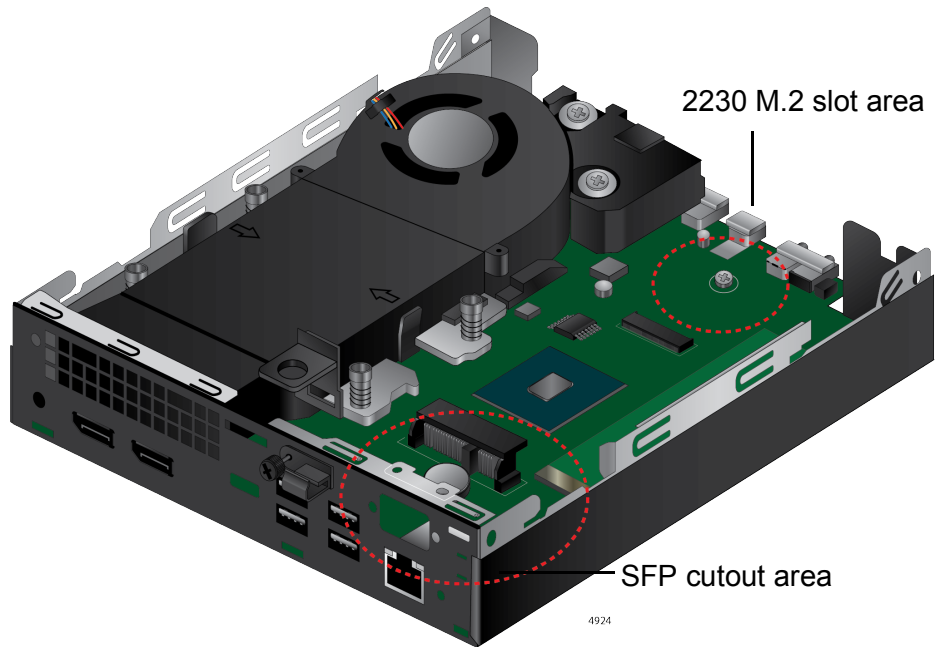

Figure 5. Inside of Dell Platform
- Remove any back plate or previously installed device that is occupying the back of the SFP cutout if necessary. See the Figure 5 on page 28.
- Remove an M.2 device, such as a Wi-Fi card, if any. See Figure 5 on page 28.